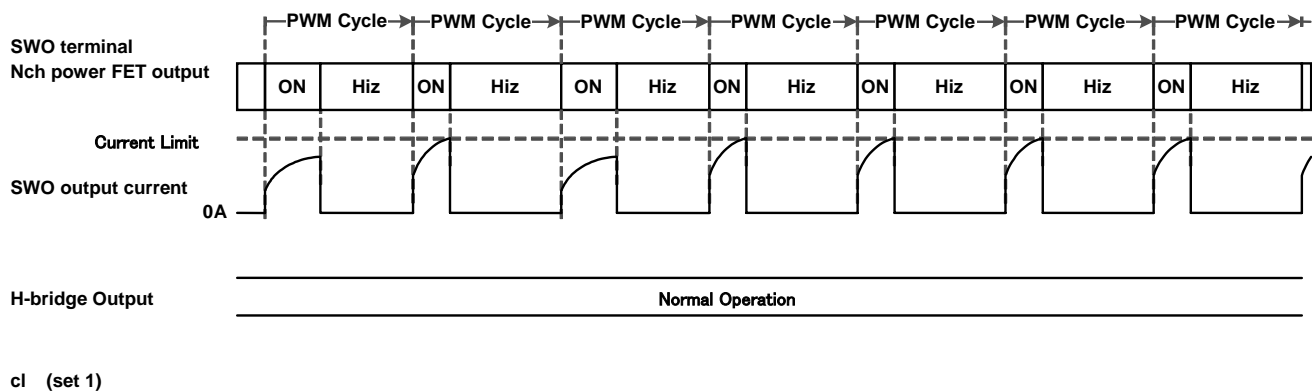

Figure 13. SWO output current limit timing chart
*⁸ When the SWO output is ON, it does sense of an SWO output current. And when its value is more than current I Current limit, it makes SWO output HiZ. The movement in CLCANCEL=1'b1 is Figure 13.